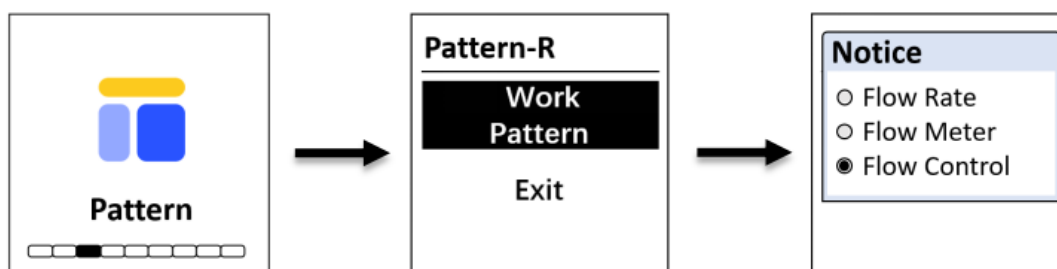

Figure. 2B - Operating Mode
When Flow Control Mode (C) is selected, a user defined flow rate setpoint must be entered (Figures 2B & 2C). The FS-100 will automatically control the regulating valve according to the preset flow rate with an internally calculated PID algorithm.